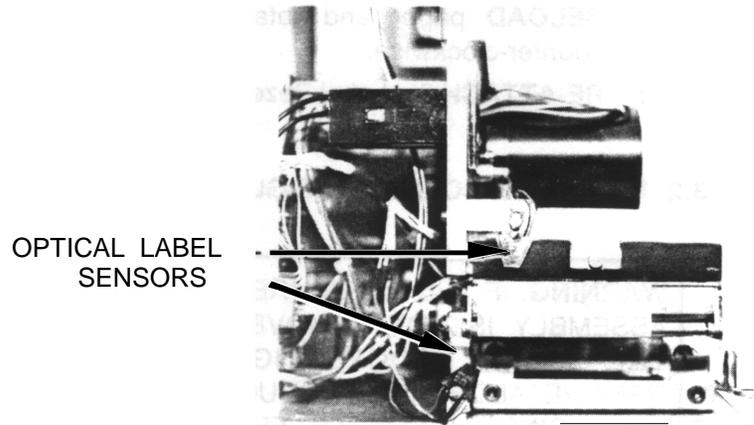

FIGURE 4
c. Optical Label Sensor (figure 4)